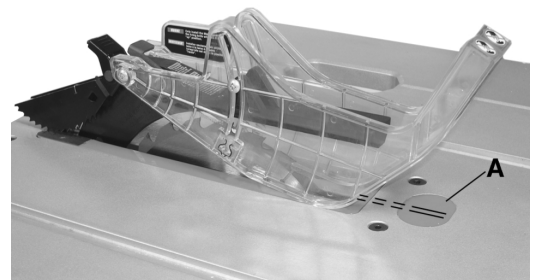

Fig. 21
A plastic markable insert (A, Fig 21) located in front of the saw blade is provided for marking the location of the saw blade kerf (cut width) on the workpiece.
3. Turn the saw off. Once the blade has come to a complete stop, pull the miter gauge back until the freshly cut workpiece is over the markable insert (A, Fig. 21).